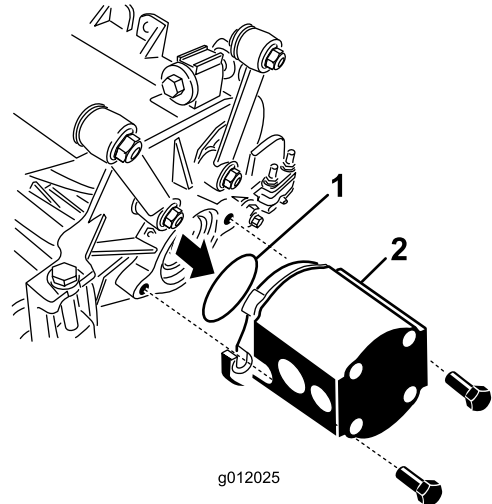

Figure 23
5. Insert the O-ring (supplied with the cutting unit) on the flange of the drive motor (Figure 23).
6. Mount the motor to the drive end of the cutting unit, and secure it with 2 capscrews provided with cutting unit (Figure 23).